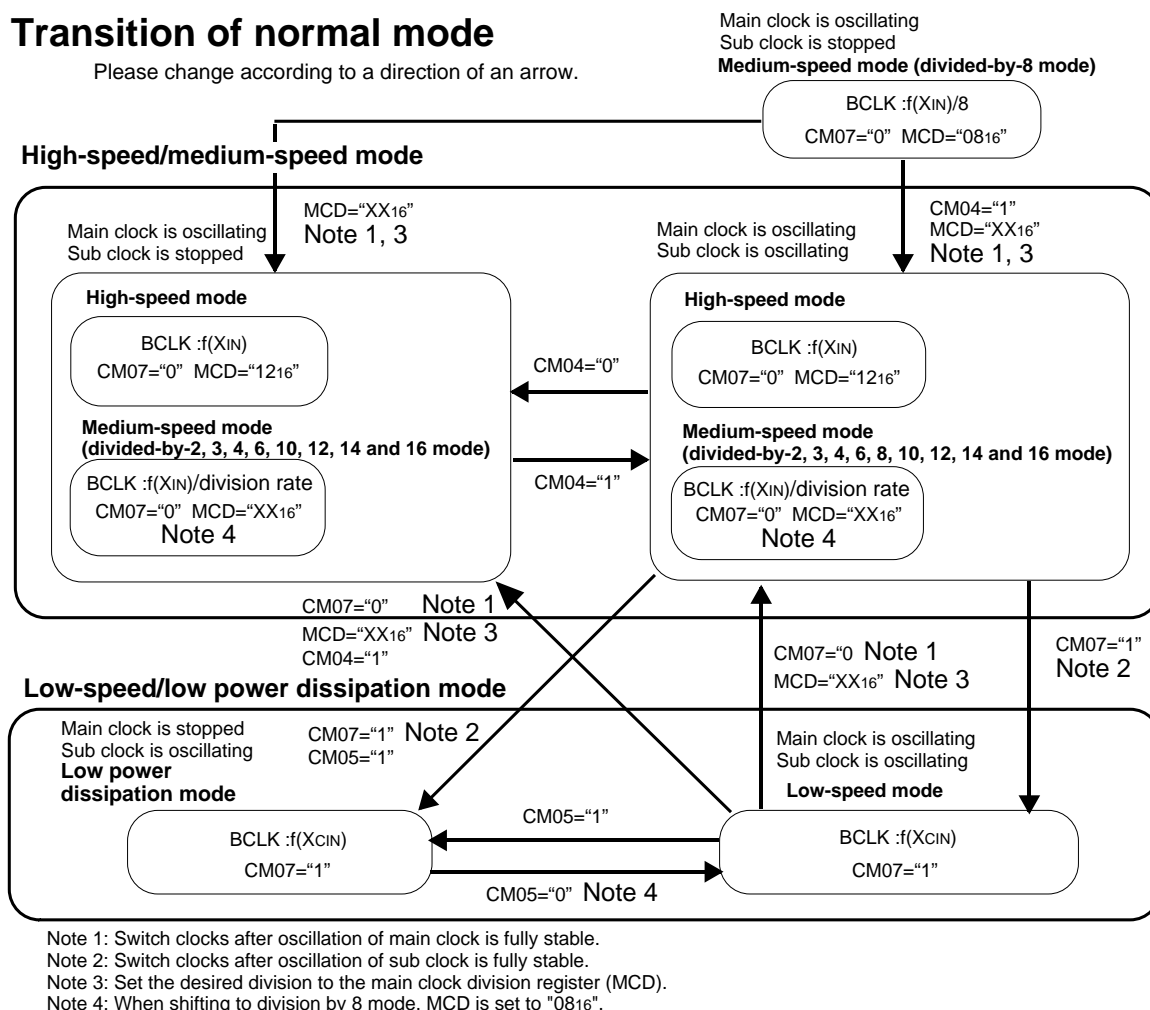

Figure 1.8.7. Clock transition
Figure 1.8.7 shows the clock transition between each of the three modes, (1), (2), and (3).